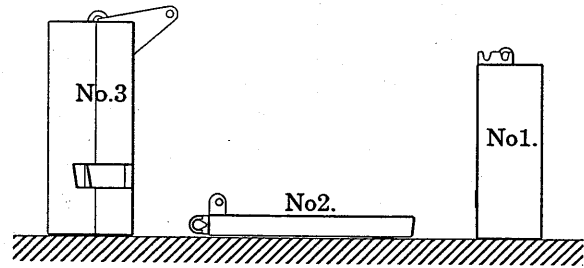

Fig 10-2
- (1) Place the crane on a firm and level ground.
- (2) Place the counterweights (No.1, No.2 and No.3) on a firm and level ground as in (Fig.10-2).